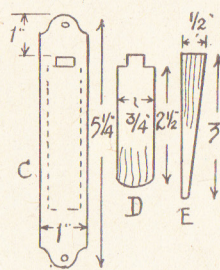

Fig. 2—Parts of the lamp bracket
For the lamp, a case is made from the  $\frac{1}{4}$  in. fretwood. Parts for this are shown in diagram Fig. 2. Cut the back (C) and shape up. At the spot shown, saw out a  $\frac{1}{4}$  in. by  $\frac{3}{8}$  in. mortise slot for the horizontal arm (D) to fit in. This arm is cut out to the length given, plus  $\frac{1}{4}$  in. extra for the tenon at its rear end, which should be cut, of course, to suit the mortise slot.